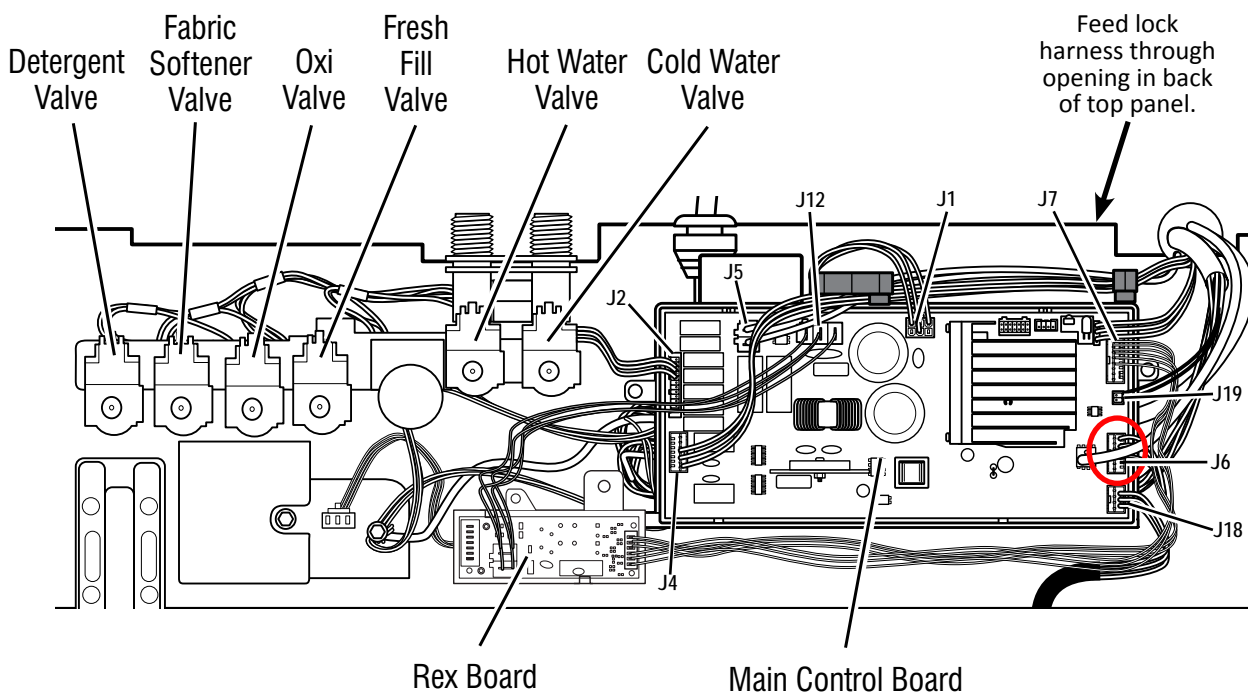

Figure 1
5. Disconnect the Lid Lock connector "J6" from the Main Control (see Figure 1).
6. Feed the Lid Lock harness through opening in back of washer top panel (see Figure 1).